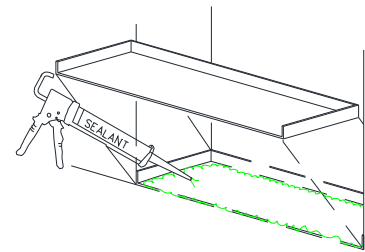

Figure 11:
- Secure the sillpan to the floor with glue. Position sillpan as necessary to allow for proper installation of frame assembly (Figure 11).